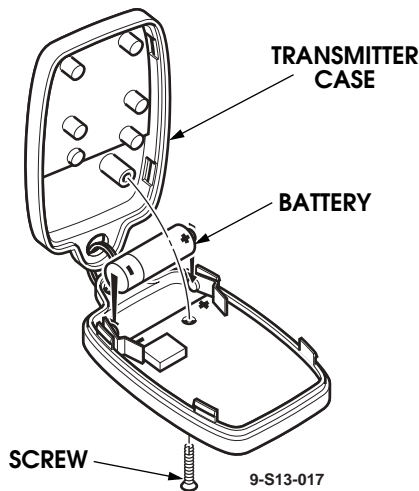

Figure 13-81: Remote Entry Battery Replacement
1. Remove the screw in the back of the transmitter (See Figure 13-81).